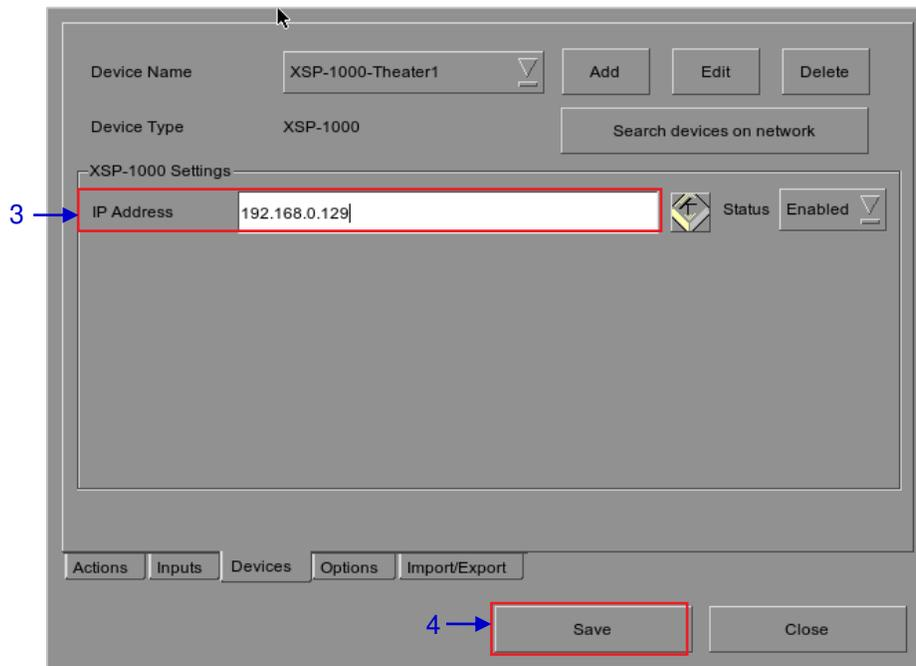

Figure 50 Automation settings for GDC XSP-1000 cinema processor
3. Enter the IP address of GDC XSP-1000 cinema processor (see Figure 50).